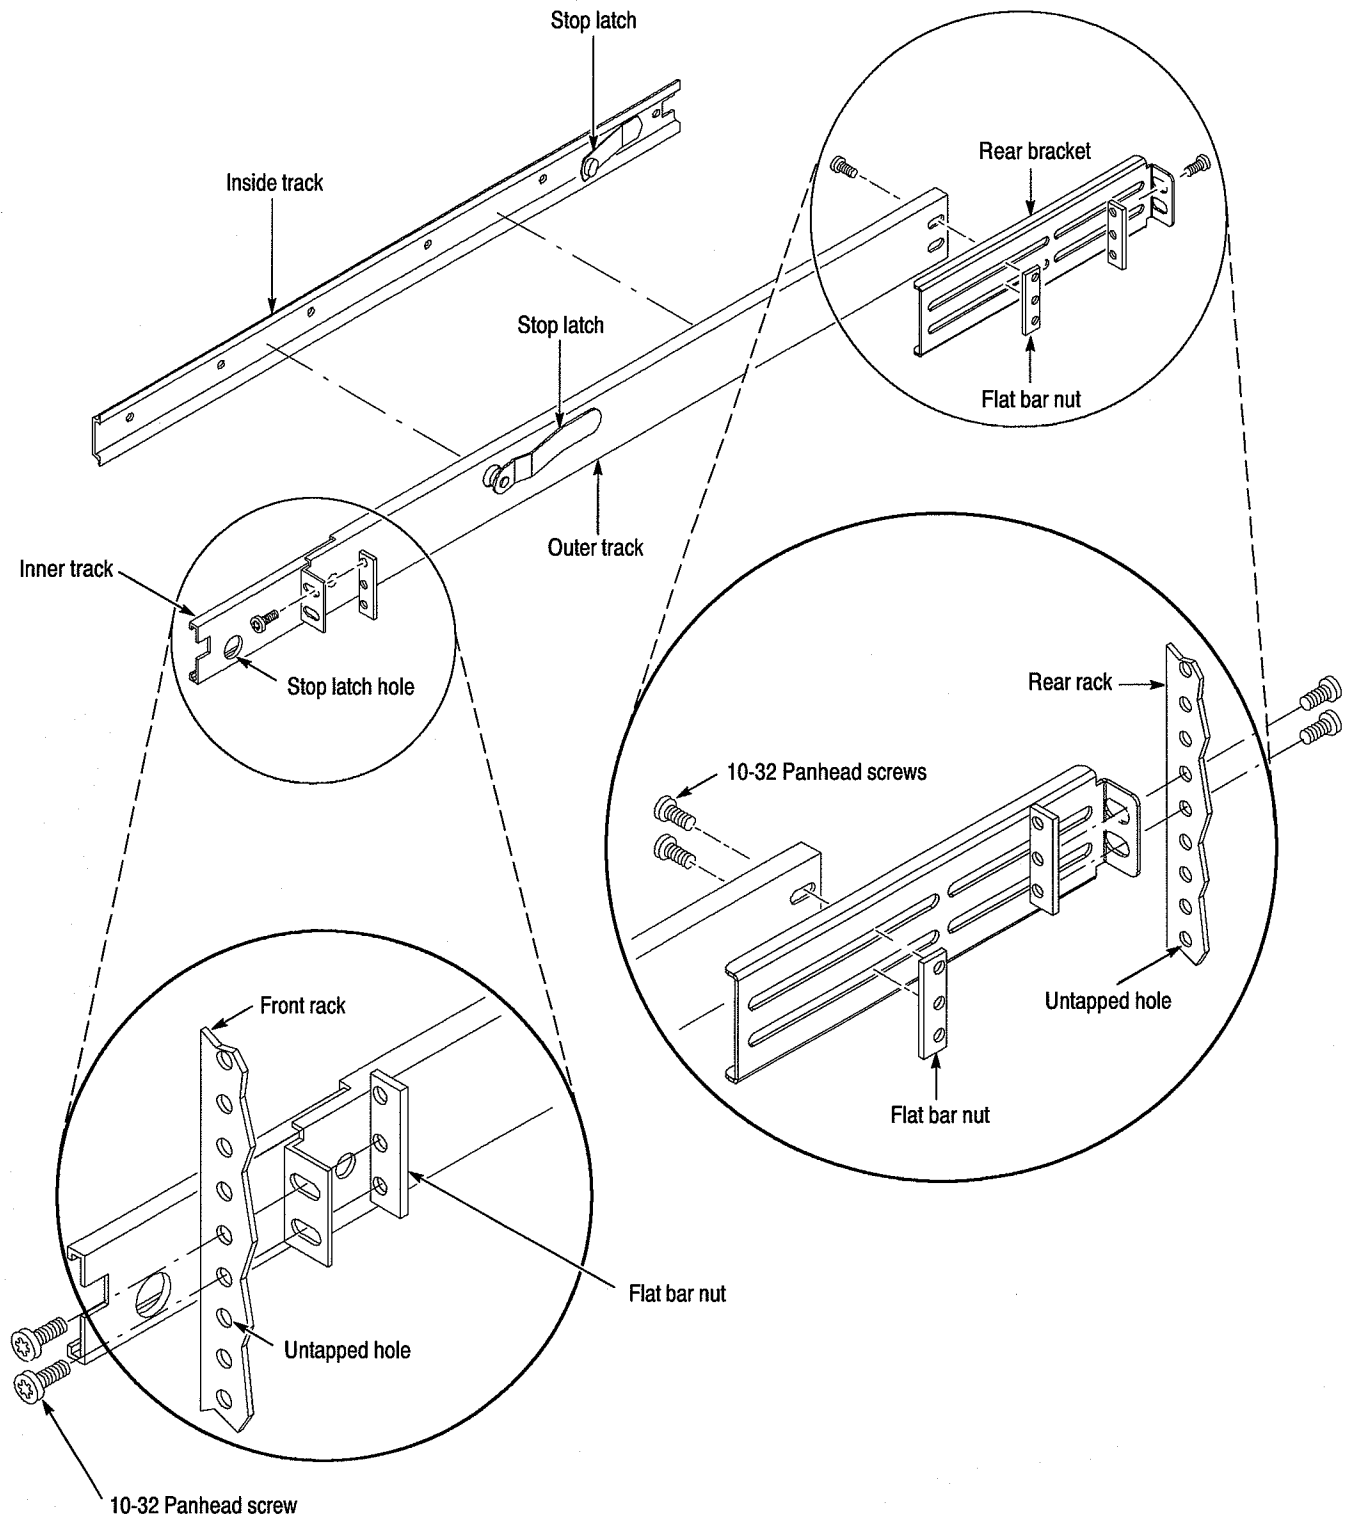

Figure 9: Assembling the slide-out tracks (for untapped rails)
3. Align the rear bracket to the right slide-out track as shown in Figure 9 or Figure 10. Note that the rear bracket has multiple pairs of mount-through holes. When aligning the bracket and track, be sure to select a pair of holes that mount the rear bracket so that the flange-to-flange distance matches the front rail to rear rail spacing of the rackmount rack just measured in step 2.